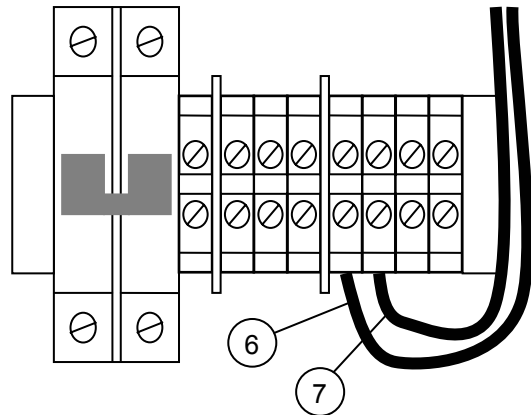

Figure 3: 230V output voltage
- 230 Volt: refer to figure 3. Connect transformer wire 6 to terminal 6 at the **230V-side** and connect the transformer wire 7 to terminal 7 at the **230V-side**.